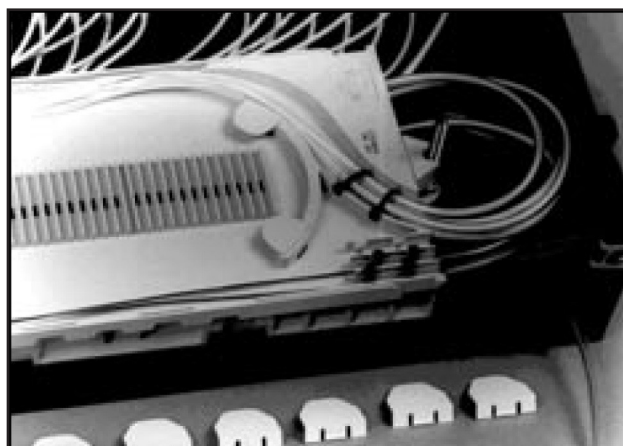

FIGURE 10 - SECURE TUBES TO SPLICE TRAY
- 8.07 Secure the Pigtail Assemblies and Fibers to the Splice Tray with the tie wraps. (Figure 10)